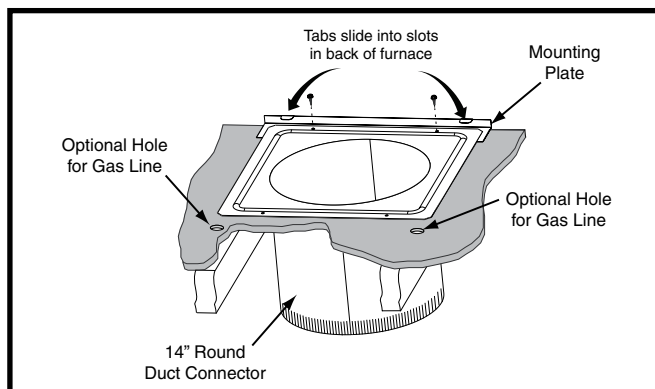

Figure 14. Round Duct Connector
2. Install the mounting plate (Figure 14, page 16) under the back side of the duct connector. **NOTE:** Make sure the screw holes are aligned in both components.
4. Secure front with one (1) fastener at each corner (Figures 14 or 15).